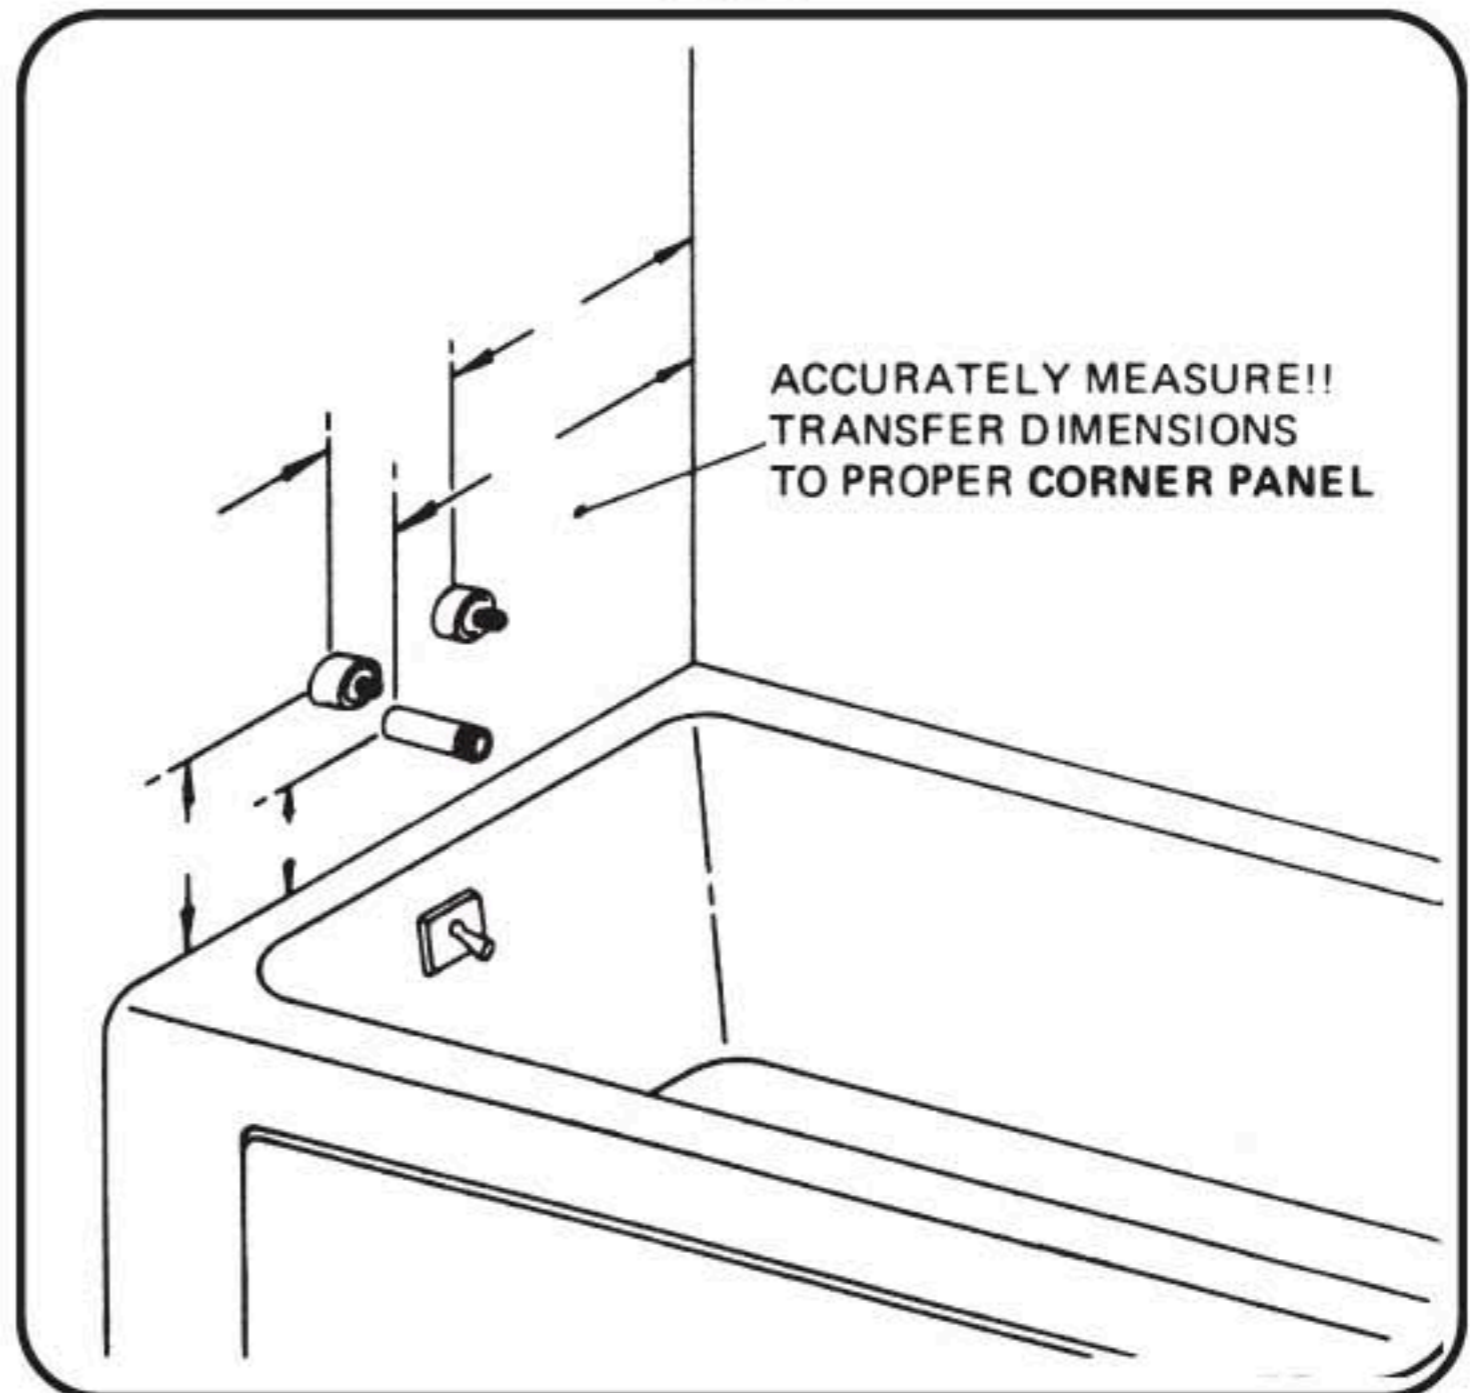

FIG. 2.
2. Accurately measure tub spout and handle(s) hole location on alcove side wall and transfer dimension to appropriate **Corner Panel**. You may want to make a template (use shipping carton) to check hole layout before you cut holes into **Corner Panel**. After you have double-checked your measurements, using the proper size drill or hole saw, cut holes for outlets. (FIG.2)